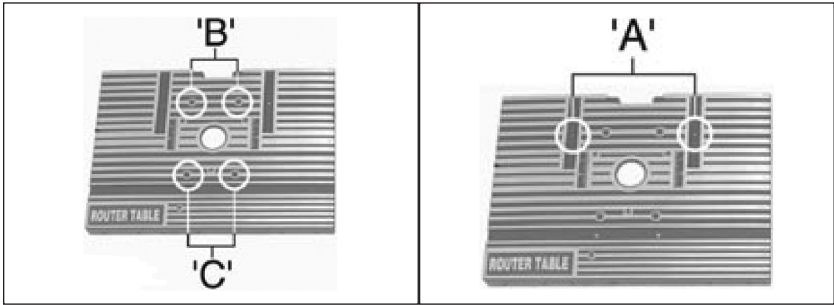

Fig.4 Fig.5
- Insert two coach bolts (M5X50) into holes marked "B" from the top of the table (Fig.4).